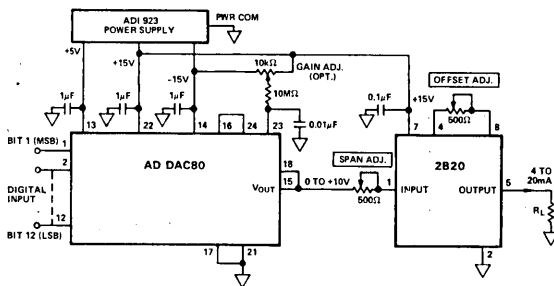

Figure 6. AD DAC80 - 4 to 20mA Current Loop Interface
**Interfacing Voltage Output D/A Converters:** The 2B20 is well suited in applications requiring 4 to 20mA output from D/A converters. The voltage necessary to power the current loop can be derived from the same +15V supply that is used to power the converter. The D/A converter, such as the 12-bit AD DAC80, should be connected for operation on the unipolar 0 to +10V output range. This is shown in Figure 6. After the load resistor connection has been made, the current loop can be calibrated using the offset and span adjustment potentiometers associated with the 2B20 (or the AD DAC80). First, a digital input code of all ones is loaded into the D/A, and the offset adjustment potentiometer is adjusted for a current output of exactly 4mA. Then, a digital code of all 0s is loaded into the D/A, and the span adjustment potentiometer is adjusted for a voltage across the load that corresponds to a current of  $20\text{mA} - 1\text{LSB} = 19.9961\text{mA}$ .